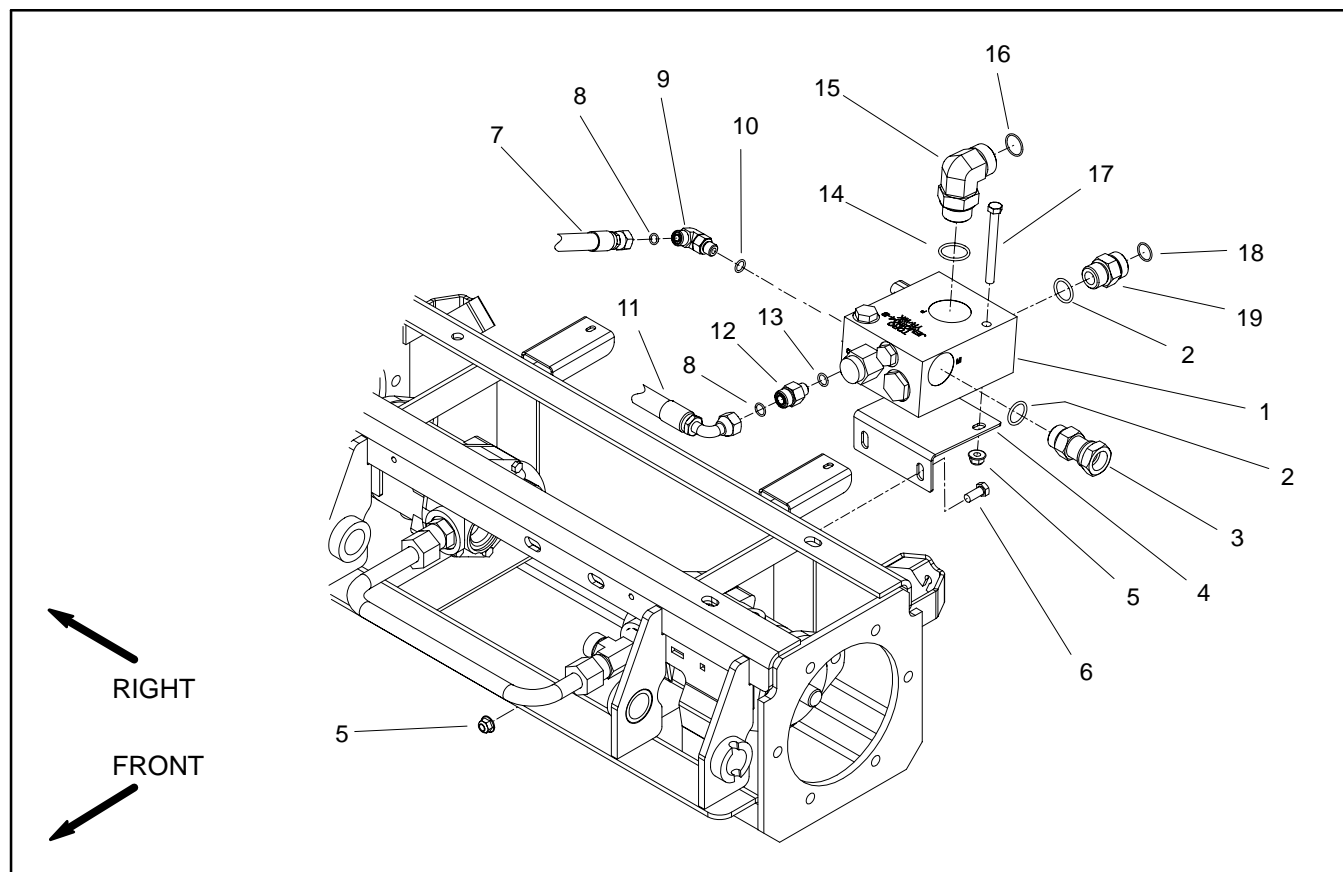

Figure 76
**Removal (Fig. 76)**
5. Remove traction manifold from the frame using Figure 76 as a guide.
**Installation (Fig. 76)**
2. Install traction manifold to the frame using Figure 76 as a guide.